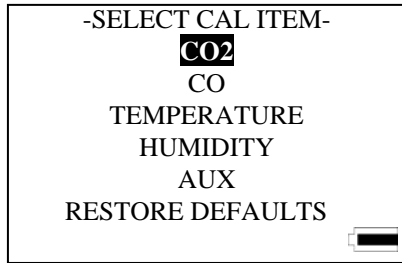

Figure 4-1: Calibration Submenu Screen
2. Select **CO₂** by pressing the ▲ or ▼ keys the in the calibration submenu and press the ↵ key (see Figure 4-1).